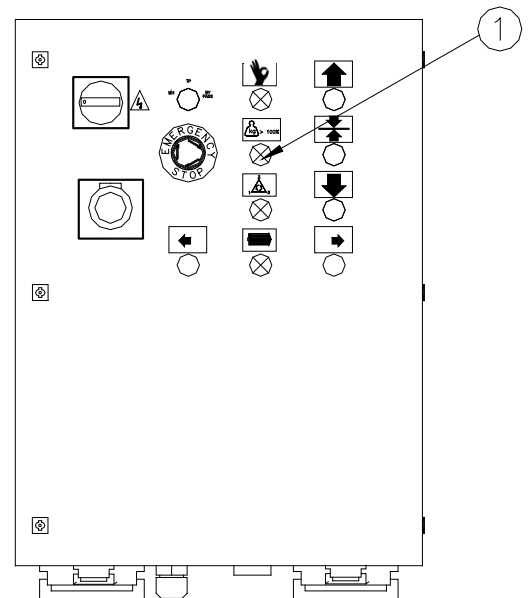

Fig.K.09. Platform electrical panel
- The red LED on the electrical panel (1-fig.K.09) of the machine must not illuminate.